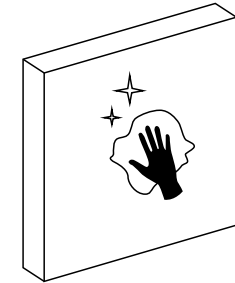

Fig. 39
- 1 Clean the surface to which the keypad is to be attached (Fig. 39).